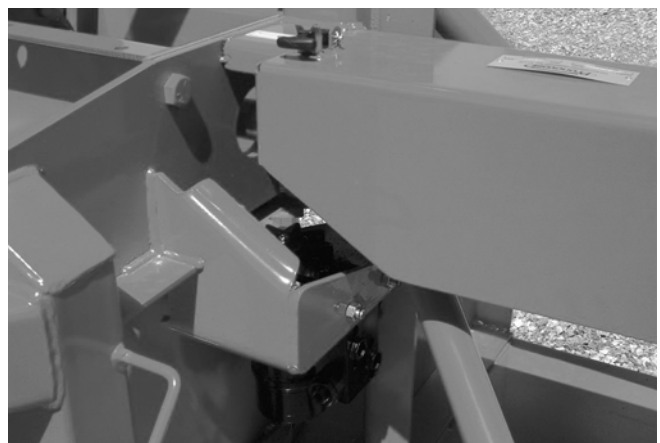

Figure 22
- 7) Close the drive shaft guard (Fig. 22).